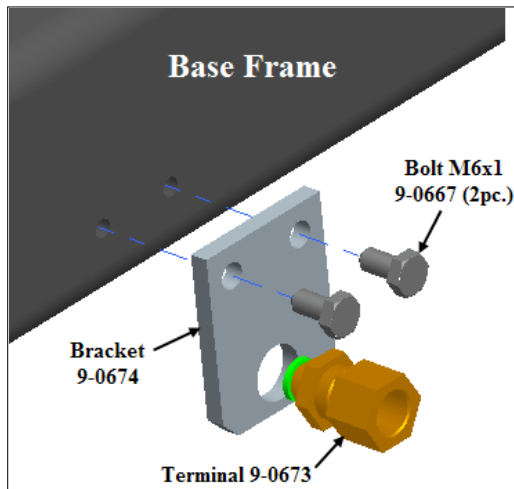

Figure 4-Bracket and Terminal
7. Bolt the mounting brackets on base frame of Jackbeams using the supplied hardware in the accessory kit. Mount the terminal fitting onto the bracket. See **Figure 4**.